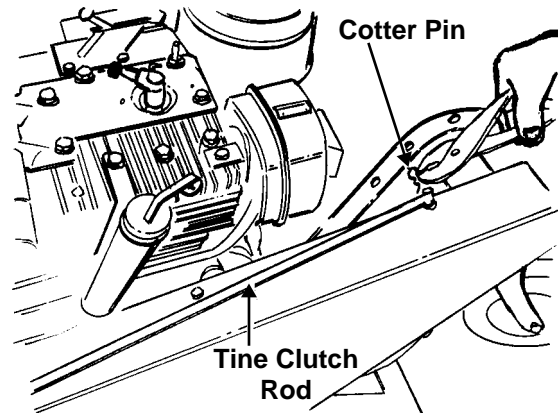

Figure 16
1. Remove the tine clutch rod by removing the cotter pin in the hooked end of rod. See Figure 16.